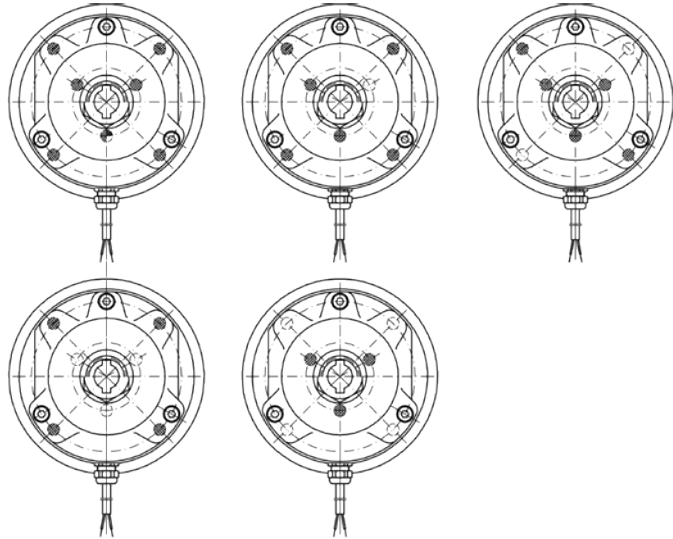
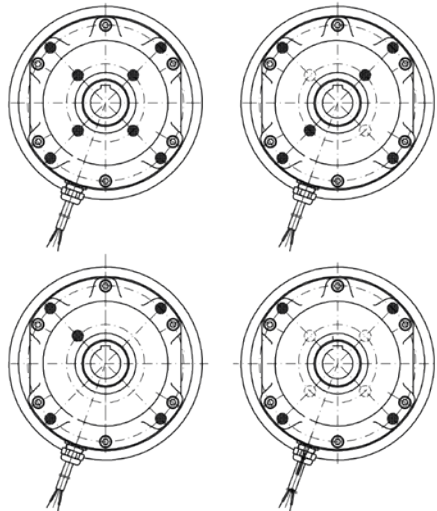

Figure 7.1 Positioning of the springs – Brakes ES(X)010A...ES(X)200A
Figure 7.2 Positioning of the springs - Brake ES(X)250A
Different brakes torques (see Brake Technical Data) can be reached by means of differing spring placement (see figure 7.1) in the magnet housing (Pos. 1).
- Insert the new spring set– positioning see figure 7.1 and figure 7.2